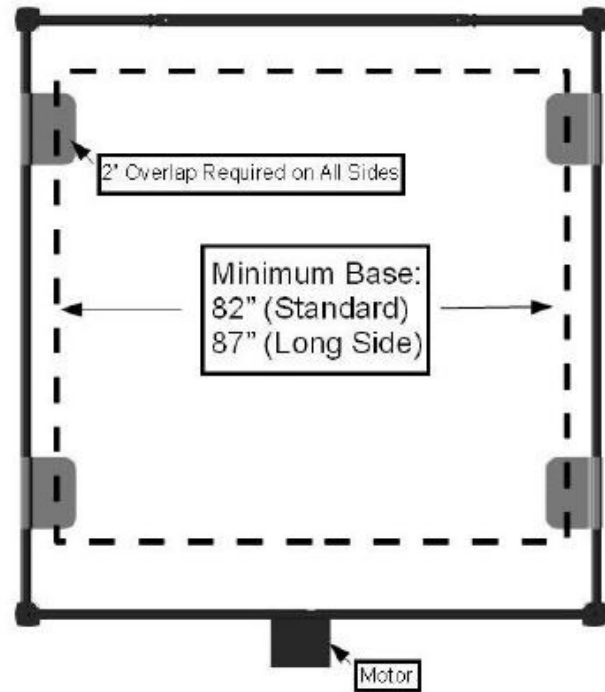
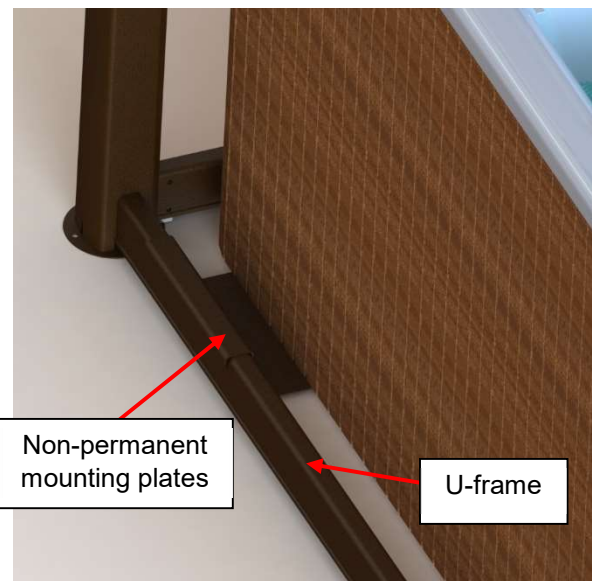

Figure 88
Figure 89
- 2) **Note:** Three installers are required. Two should lift the tub at one end approx. 4" off the ground while the third slips the non-permanent mounting plates under the hot tub and hooks them over the U-Frame. (Figure 88 and Figure 89).
- 3) Repeat on the other side as shown on Figure 88. **Note:** The plates must be installed over the U-frame (two on each side).
- 4) The proper disposition of the plates is determined by the size of the hot tub. You normally want the plates to be as close to the corners of the tub as possible. (Figure 89)